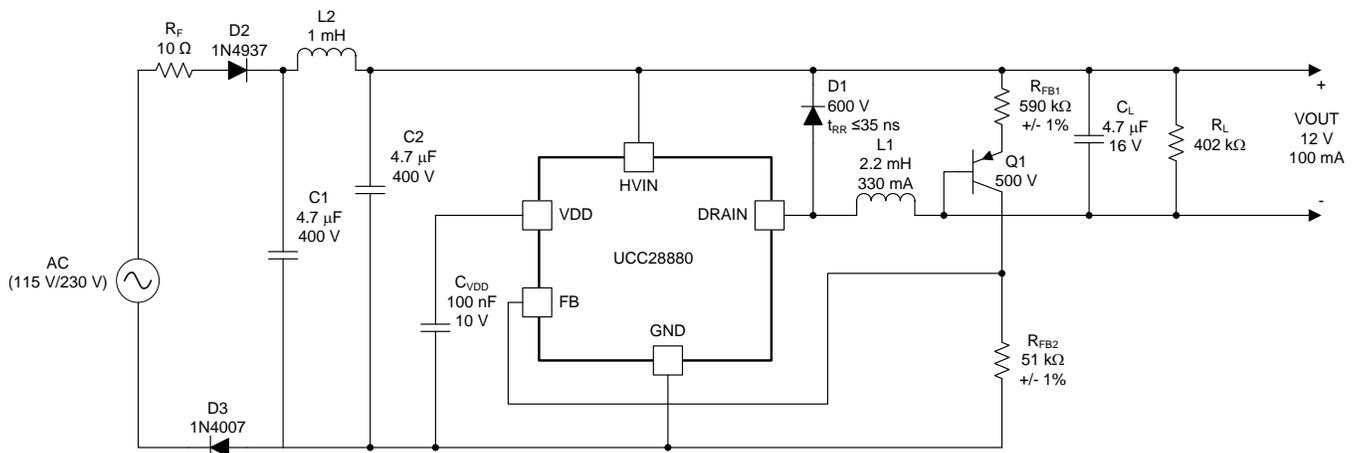

Figure 16. Universal Input, 12-V, 100-mA Output Low-Side Buck
Figure 16 shows a typical application example of a non-isolated power supply, where the UCC28880 is connected in a low-side buck configuration having an output voltage that is negative with respect to the positive input voltage (VIN+). The output voltage is set to 12 V in this example, but can easily be changed by changing the value of RFB1. This application can be used for a wide variety of household appliances and automation, or any other applications where mains isolation is not required.
- $C_{BULK(\min)}$ is minimum value for the total input capacitor value (C1 + C2 in the schematic of Figure 16).